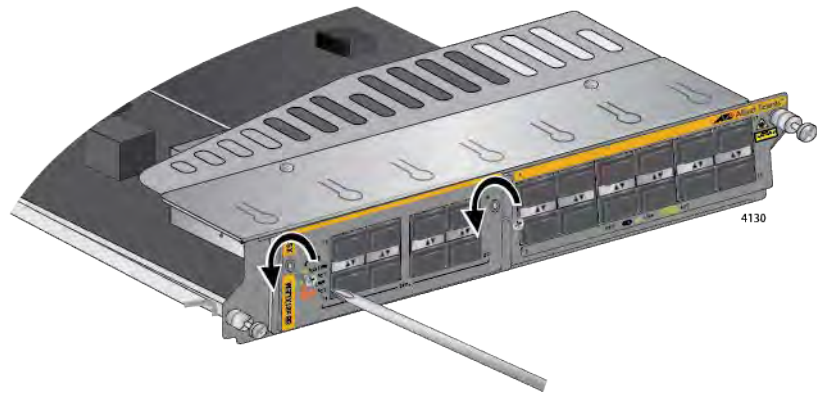

Figure 174. Removing the Screws from the Expansion Module
3. With a Phillips-head screwdriver, remove the two screws that secure the expansion module to the line card. Refer to Figure 174 on page 286.